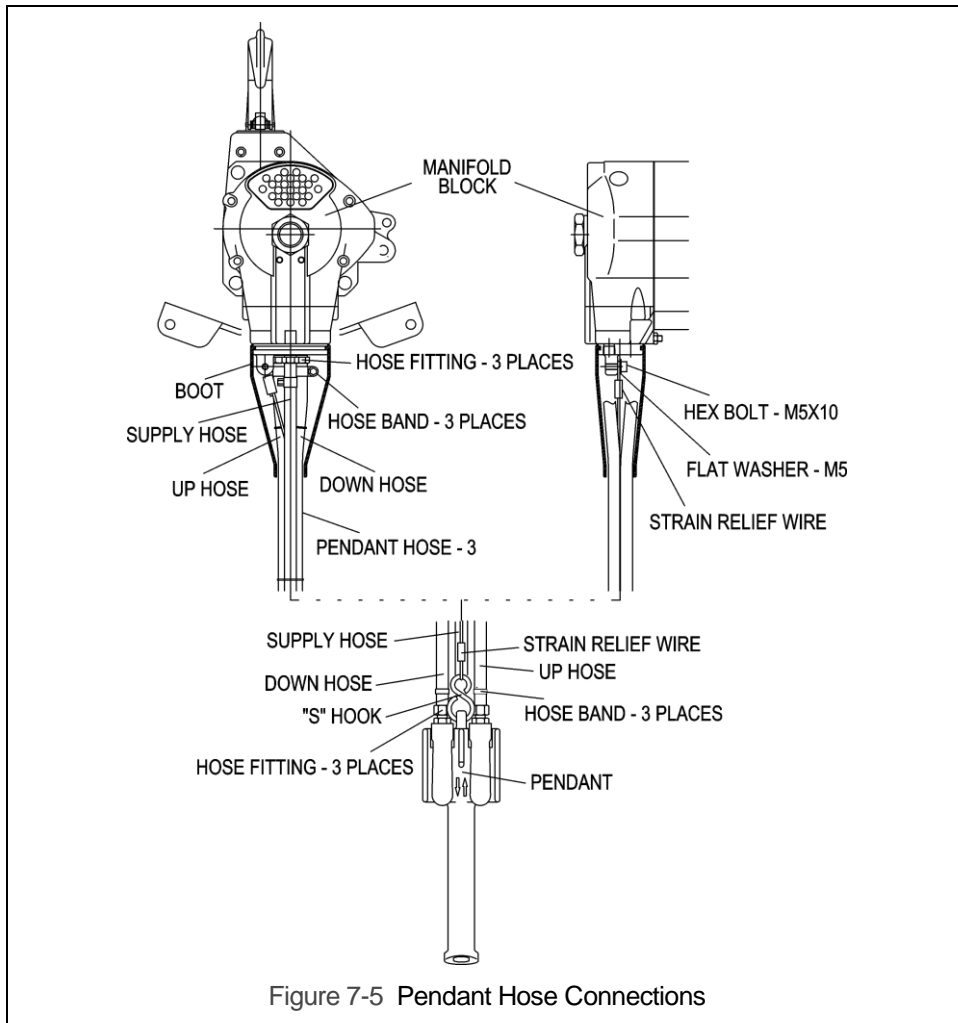

Figure 7-5 Pendant Hose Connections
7.3.1 The following procedure covers the installation of the Pendant Hose (Parts List Figure Number 360) and the Pendant Valve. Refer to Figure 7-5.
- 3) Attach pendant hoses to the pendant valve using the 2 piece fittings and crimp type hose clamps (hose bands). Refer to Figure 7-5 for the correct placement of the Hoses.